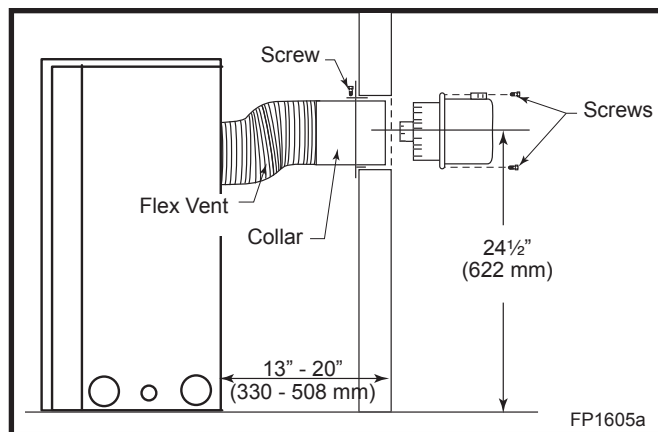

Fig. 24 The centerline of the termination must be 24½" (622 mm) off the floor.
1. Determine the location of the termination. (Fig. 24)